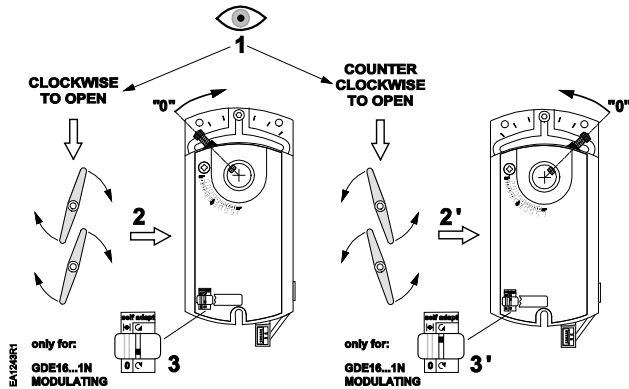

Figure 3. Setting GDE161.1N Direction of Rotation.
1. Determine whether the damper blades will rotate clockwise or counterclockwise to open. See Figure 3.
1. To access the DIP switch, raise the tab on the lower left side of the actuator. See Figure 3.
1. To use the entire 0V to 10V input signal to control the adjusted range, raise the tab located on the lower left-hand side of the actuator and locate the DIP switches. See Figure 3.
2. Set the self-adapt DIP switch to (ON).